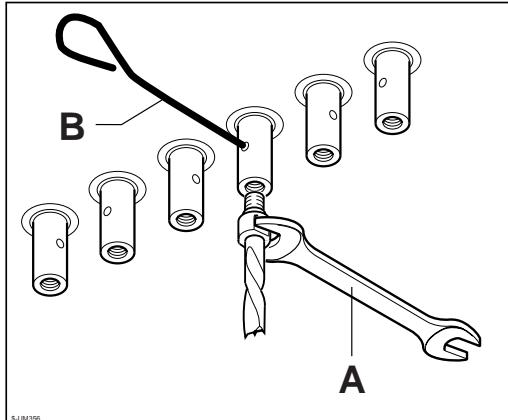

Fig. 8
- Tighten the bits with the open-ended spanner A (Fig. 8 - 9) and tighten the spindles with the pin supplied B.